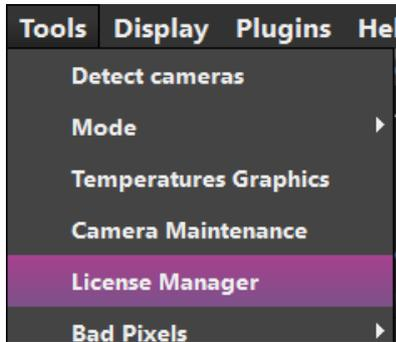
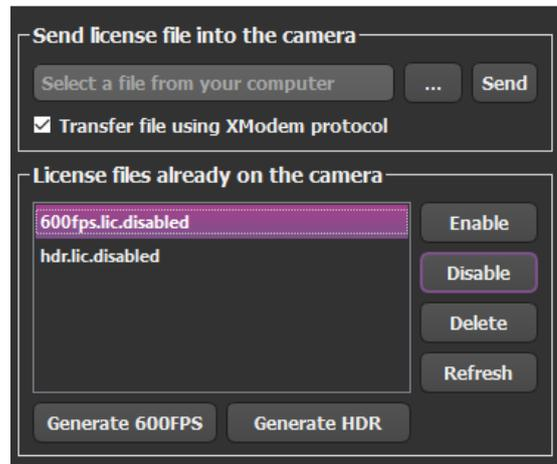

Figure 9: License Manager Settings
Figure 10: Disable the 600fps license
- (1) Open First Light Vision software, then go on Tool → License Manager (Figure 9).
- (2) Select the 600fps.lic file,
- (3) Click on disable (Figure 10).
- (4) Disconnect and reconnect the camera power cable to reboot it in the case you are using C-RED 2 or C-RED 2 ER. If you are using C-RED 3, just close the License Manager window and click on reboot button.